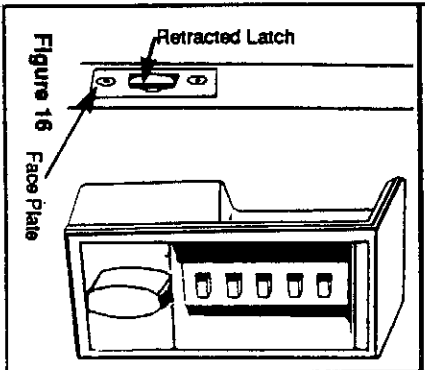

Figure 16
8. Turn the outside thumbturn to the right or clockwise once, until it stops, hold in this position and check if latch is retracted. (see Figure 16). Release. Try again to turn the thumbturn clockwise. Thumbturn will not turn, unless the correct combination is entered.